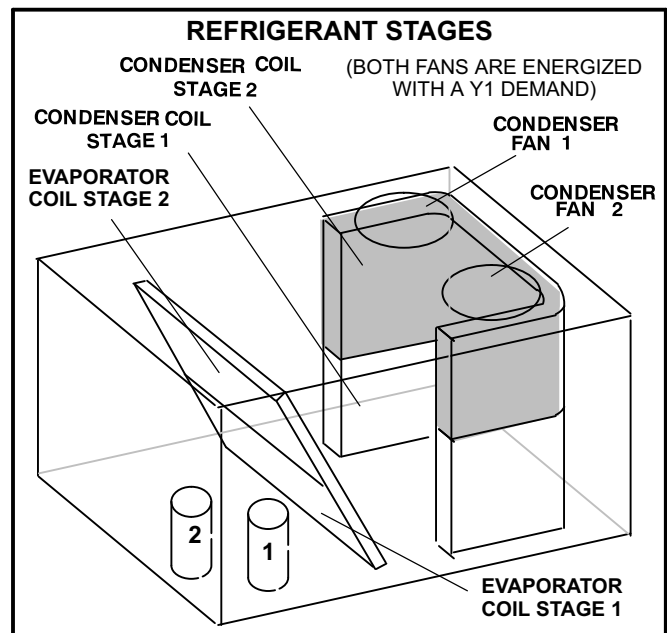

FIGURE 17
- 3- Units contain two refrigerant circuits or stages. See figure 17.